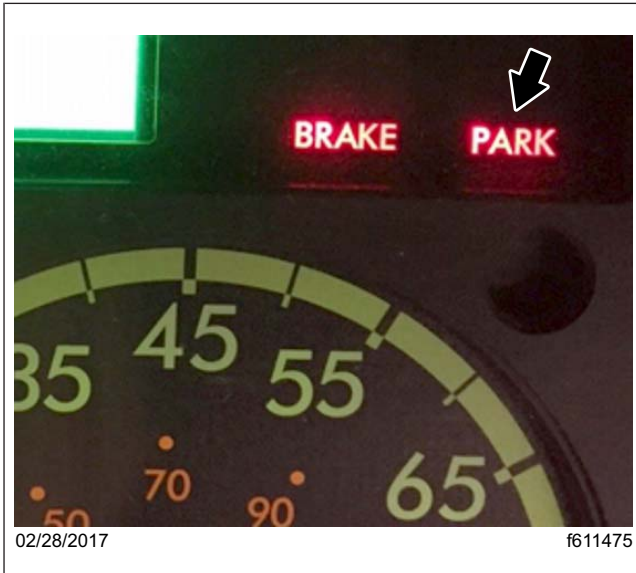
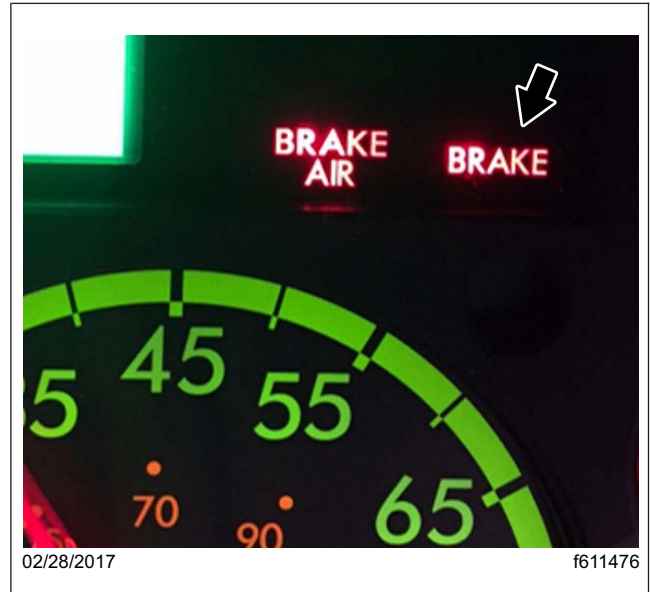

Fig. 1, "Park" Telltale - Replace ICU3S
Fig. 2, "Brake" Telltale is OK - No Replacement
3. During the bulb check at key-on, inspect the telltales on the ICU3S (affected telltales will be illuminated for three seconds). See **Fig. 1** and **Fig. 2**